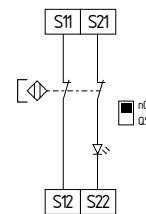

Fig. 14
**Dual-channel control of magnetic safety switches according to EN 60947-5-3 (see Fig. 14)**